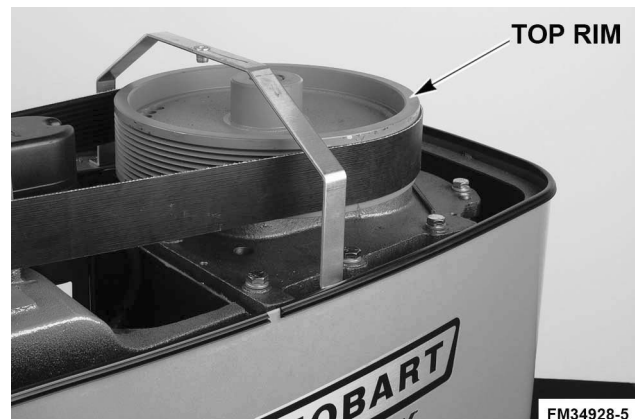

Fig. 1
- Place a level on the top rim of the large pulley (Fig. 1). Slide shims under the base contact surface of the mixer as required to level it front-to-back and side-to-side.